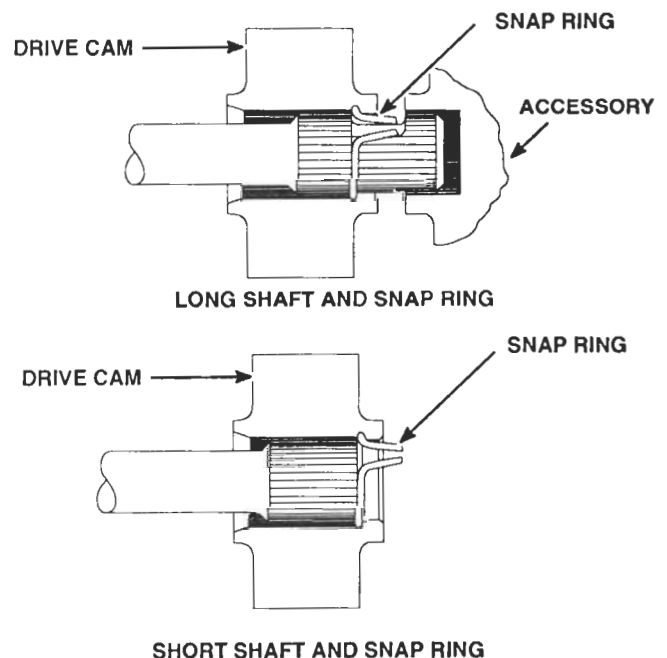

Figure 4. Blower Drive Gear and Support Mounting
2. Remove the blower drive oil line (Figure 4.)